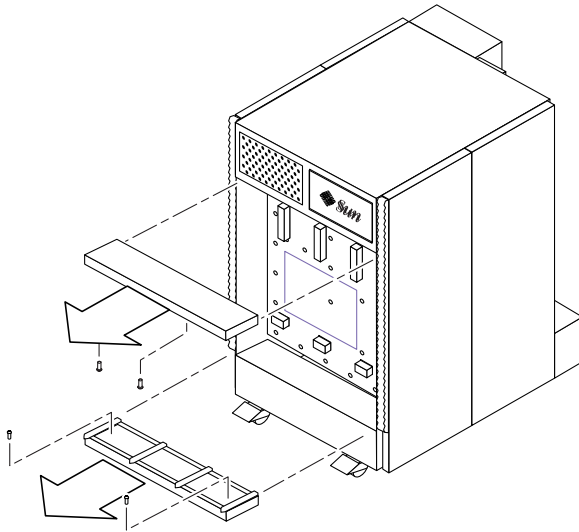

FIGURE 12-23 Removing the Top and Bottom Power Supply Supports—Sun Fire 4800 System
5. Replace the upper and lower power supply support (FIGURE 12-23).